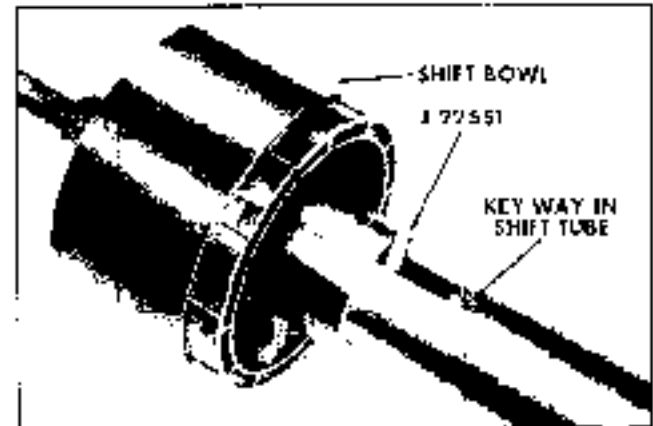

Fig. 9-28 Installing Tool J 22551
19. Remove shift tube assembly from bowl with tool J 22551. Insert the blade end of the tool in the notch of shift tube which is below the bowl key. Pilot sleeve in upper end of shift tube. Force shift tube out of bowl by turning out (Figs. 9-28 and 9-29). If the shift tube is not completely freed from the bowl when tool J 22551 is removed, finish removal by hand and withdraw shift tube from lower end of mast jacket.
5. Align keyway in shift tube with key in shift bowl and use tool J 22549 to pull the shift tube into the bowl (Figs. 9-28 and 9-29).